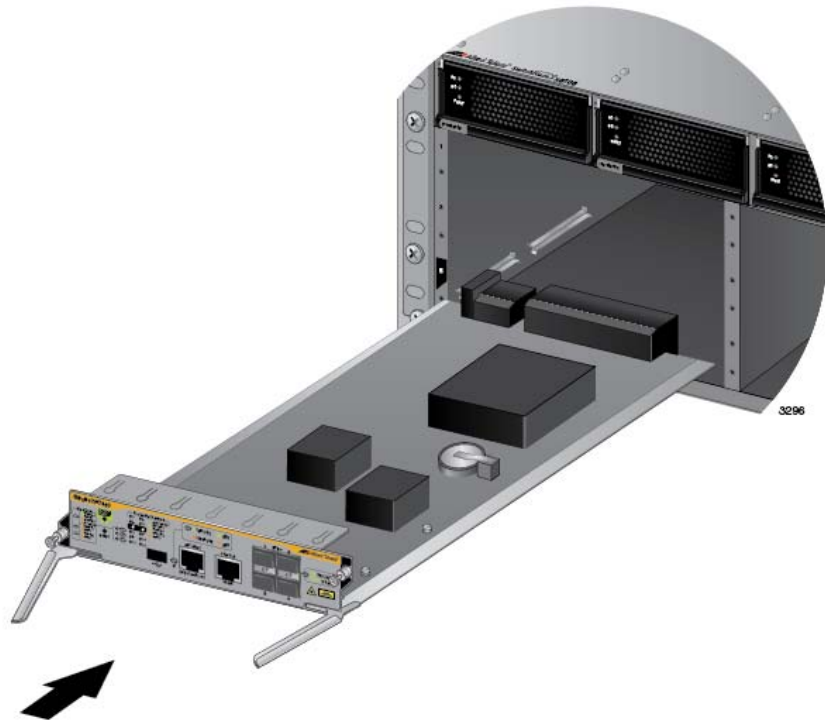

Figure 74. Aligning the AT-SBx81CFC960 Card in the Chassis Slot
6. Align the edges of the AT-SBx81CFC960 Controller Fabric Card with the internal chassis card guides in slot 5 or 6 of the AT-SBx8106 Chassis. Figure 74 on page 145 shows the AT-SBx81CFC960 Card aligned in slot 5.